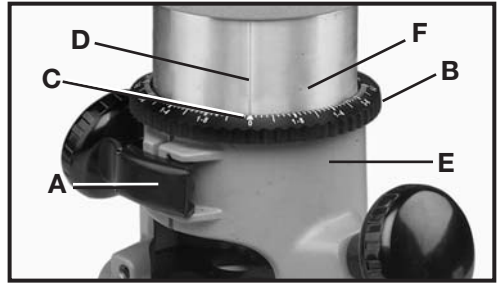

Fig. 3
1. Open the clamp (A) Fig. 3.
2. Hold the base (E) and turn the power unit (F) Fig. 3 COUNTER-CLOCKWISE until the tip of the bit is above the bottom of the base.
4. Turn the power unit (F) Fig. 3 CLOCKWISE until bit touches the work.
5. Close the clamp (A) Fig. 3.
6. Rotate the depth adjusting ring (B) Fig. 3 until the zero-line (C) is opposite the index line (D) on the housing.
7. Open the clamp (A) Fig. 3.
8. Tip the router so that the bit is clear of the work surface. Turn the power unit (F) Fig. 3 CLOCKWISE until the index line (D) on the motor housing reaches the desired depth indicated on the ring.
9. Close the clamp (A) Fig. 3.